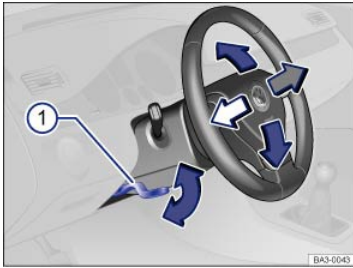

Fig. 43 Manual adjustment for the steering wheel position.
- Push down on the lever ⇒ Fig. 43①.
- Always pull the lever ⇒ Fig. 43① firmly upward after adjusting the steering column so that the steering wheel does not change position suddenly while the vehicle is moving.